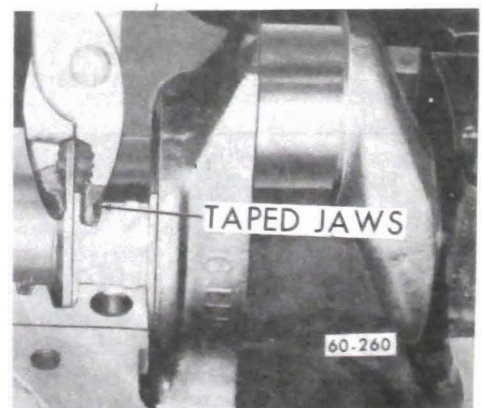

Figure 60-121 - Rear Main Bearing Replacement
a. Use a small drift punch and hammer to start the upper bearing half rotating out of block. b. Use a pair of pliers (with taped jaws) to hold the bearing thrust surface to the oil slinger and rotate the crankshaft to remove bearing. See Figure 60-121.